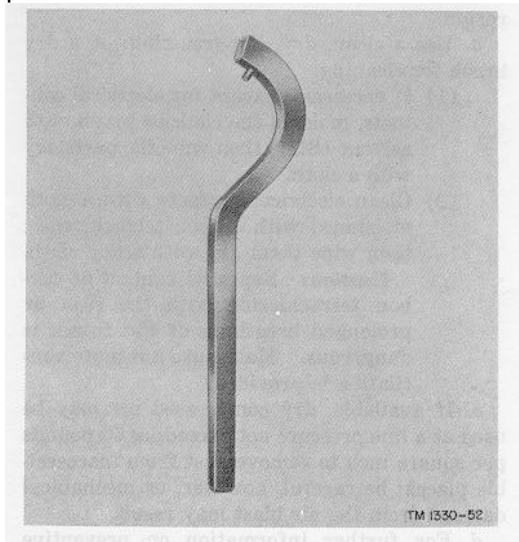

Figure 78. Spanner wrench.
b. The four Bristol setscrew wrenches are used to loosen or tighten parts of the radar set where internal spline setscrews are used. These wrenches are located on the terminal board panel in the indicator (fig. 49). The spanner wrench (fig. 78), which is clipped to the air duct in the receiver-transmitter unit (fig. 6), is used to loosen or tighten the waveguide coupling in the receiver-transmitter. The klystron and crystal tool, which is held in a clip on the receiver chassis (fig. 6), is used to adjust the tuning strut on the local oscillator and to remove the mixer crystals from their holders